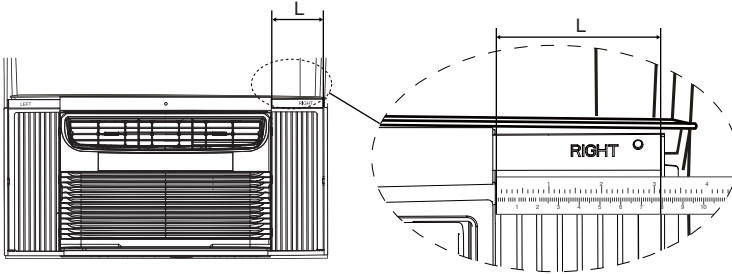

FIG. 22
1. Measure the width of the inner side curtain with the provided ruler (FIG. 22).